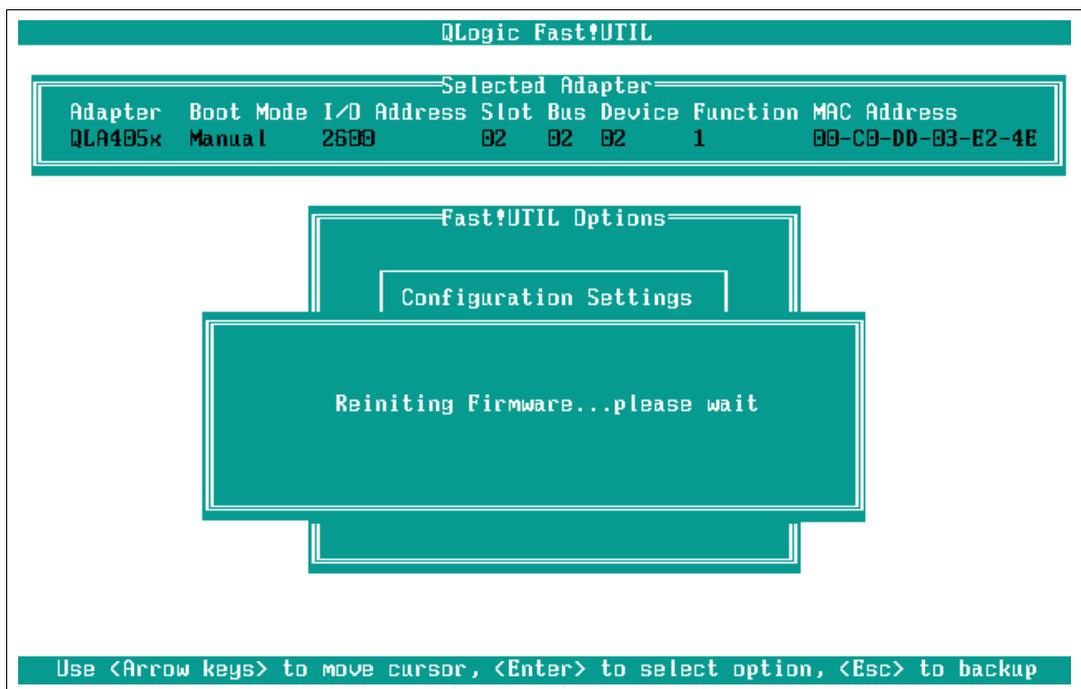

Figure 2-19 Reiniting status window
11. Select **Reinit Adapter** and press Enter. You will see a status window indicating Reiniting Firmware... please wait. See Figure 2-19.